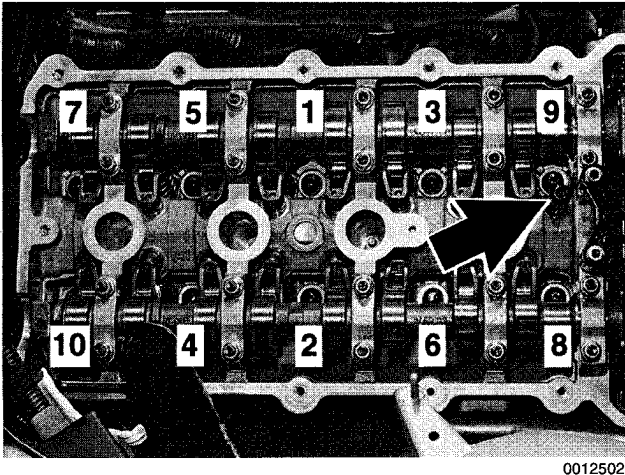

Fig. 17. Cylinder head bolt tightening sequence for 4-cylinder engines. Note oil supply tube seal (arrow) on M44 engine.
On M44 engines, replace seal for oil supply tube. See Fig. 17.)
8. Tighten cylinder head bolts in correct sequence. See Fig. 17.